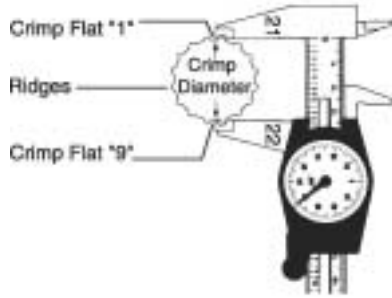

Fig. 1
- Using Gates "21/22" dial calipers (Product No. 7369-1320, Part No. 78217) measure halfway between the ridges (Fig. 1). To be sure crimp diameter is being properly measured, mark a crimp flat. Beginning with that flat, count 9 flats to get the diameter. Be sure caliper blades DO NOT touch ridges.